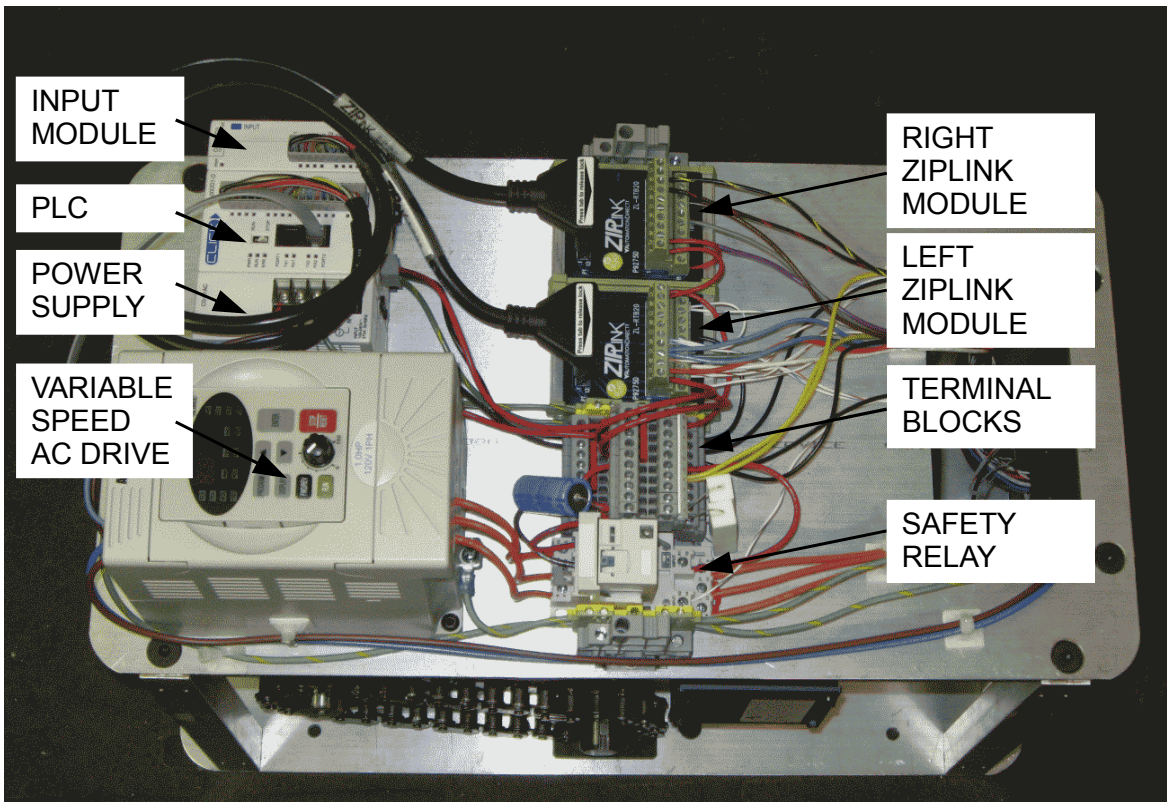
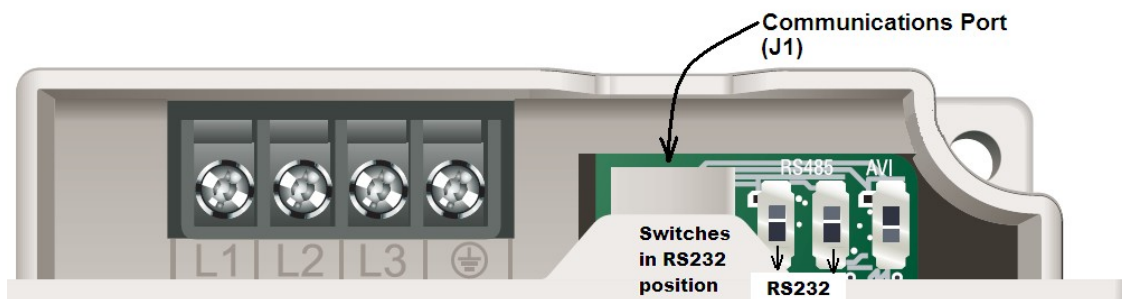

Figure 17: IPL Power Unit Components
Figure 18: AC Drive Switches and Connections
Note: voltage measurements such as “0 V” and “24 V” are made by securing the voltmeter negative lead at lower TB9 (the 24 V power supply ground), or a point connected to it, such as C3 on the left ziplink terminal block or the range of lower terminal blocks TB6 to TB10. Place the voltmeter positive lead on the screw terminal at the point to be measured, such as left Ziplink module X3. The left Ziplink terminals are the same points as the PLC (such as X1 to X8), and the right Ziplink terminals (C1, C2, 1, and 2) are the same points as the Input module. Reference Figure 17 for component locations.
- Is the PLC “PWR” lamp lit? (See Figure 17) If not, check the AC power cord and power switch.
- Is the AC drive LED display lit? (See Figure 17.)
- If the E-stop switch is pulled out and the X7 and X8 indicators on the PLC are on (see Figure 19), then measure the voltage at Safety Relay terminal A2. It should be less than 0.5 V if the slack and broken chain switch is closed (see Table 1 and reference Figure 17 for component locations.) Check the slack and broken chain switch action (see Section 4) if the switch is not closed. Otherwise, proceed to check the PLC.
- Verify the slide switch is in the RUN position and the flat (“communications”) cable is connected to Port 2 of the PLC and J1 of the AC drive. (Reference Table 2, Figure 18, and Figure 19.)
4) **AC Drive:** lift the cover near the left side of Figure 17 (below) and verify SW2 and SW3 are in the RS232 position. Reference Figure 18. The flat gray (“communications”) cable between J1 of the AC drive and port 2 on the PLC has a mark on the PLC end of the cable. Verify that the marked end of the communications cable is plugged into port 2 of the PLC.